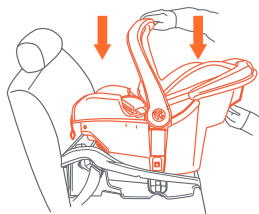

Fig. 45-1
2. Remove the Safety Seat from the base by squeezing the base release handle located under the center of the head end of the Safety Seat and lifting upward on the Safety Seat (See Fig. 24-1). **Store both LATCH connectors as shown in Fig. 45-1.**
10. If you are using the Base, check that nothing is on top of the base, or anything that will interfere with the proper latching of the Safety Seat to the Base. Place the Safety Seat onto the Base and push down until the Safety Seat latches securely to the Base and you hear a click (Fig. 45-1). Pull upward on the Safety Seat to check that the Safety Seat is securely latched onto the base (Fig. 45-2).